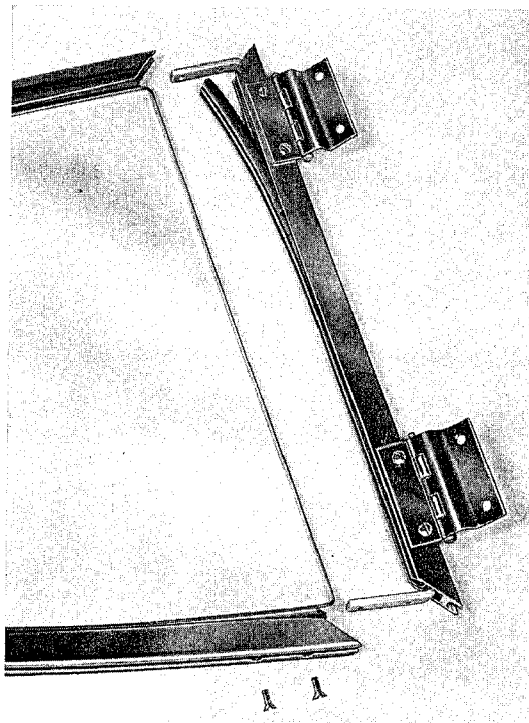

Fig. 87
2. Remove end piece from the frame as in Fig. 87.